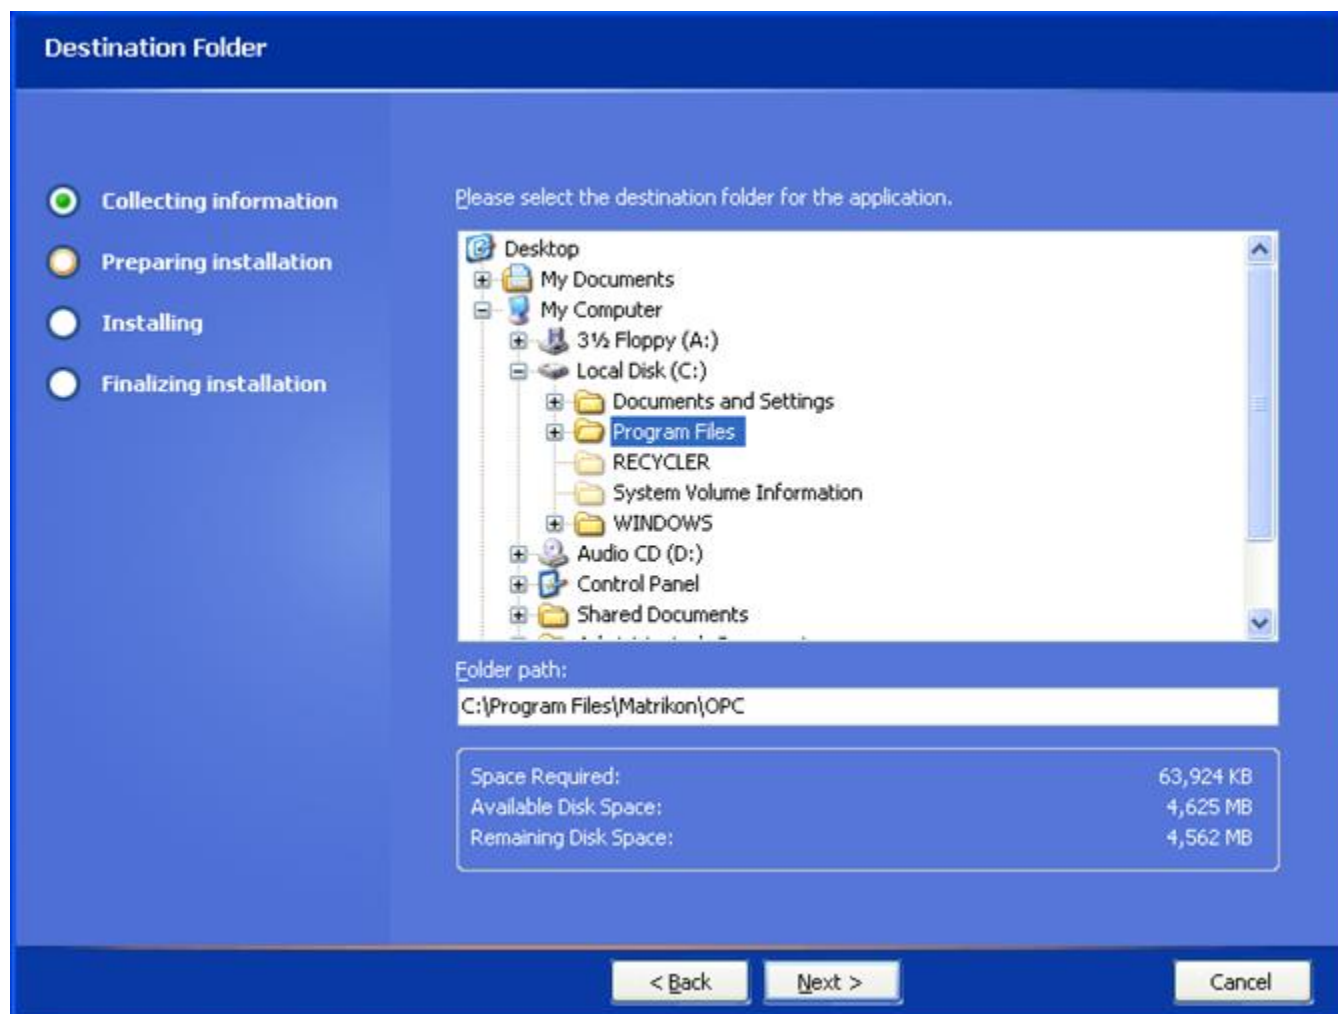

Figure 71 - Destination Folder Screen
10. Click on the **Next** button. The **Destination Folder** screen (Figure 71) appears.